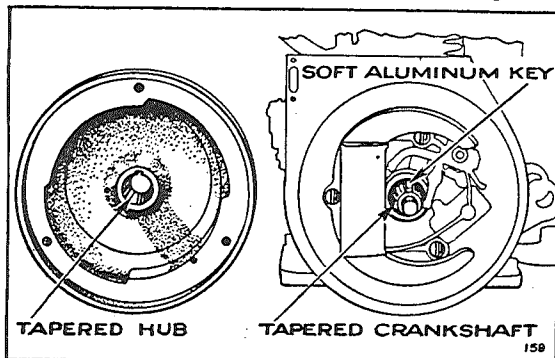
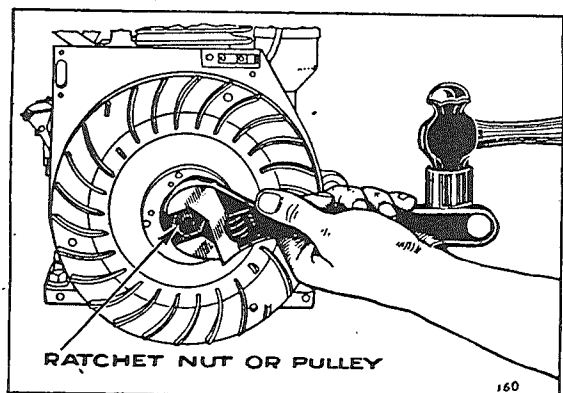

Fig. 6.
Fig. 7.
42. Replacing the flywheel. When completing any necessary work, replace the flywheel, being sure to use the soft Woodruff key supplied. The key is only for the purpose of locating the flywheel on the crankshaft in the correct position so that the magneto will be correctly timed. The flywheel is driven, however, by being a tight taper fit on the taper of the crankshaft. This taper is shown in Fig. 6.) In case the flywheel should come loose, the soft Woodruff key is designed to shear off so that no damage will be done. Therefore, A STEEL KEY SHOULD NEVER BE USED. After the flywheel is in place, has been located with the key and nut or pulley has been screwed up, this nut or pulley should be made VERY TIGHT. This can be done as shown in Fig. 7 by striking the wrench handle or bar with a hammer.